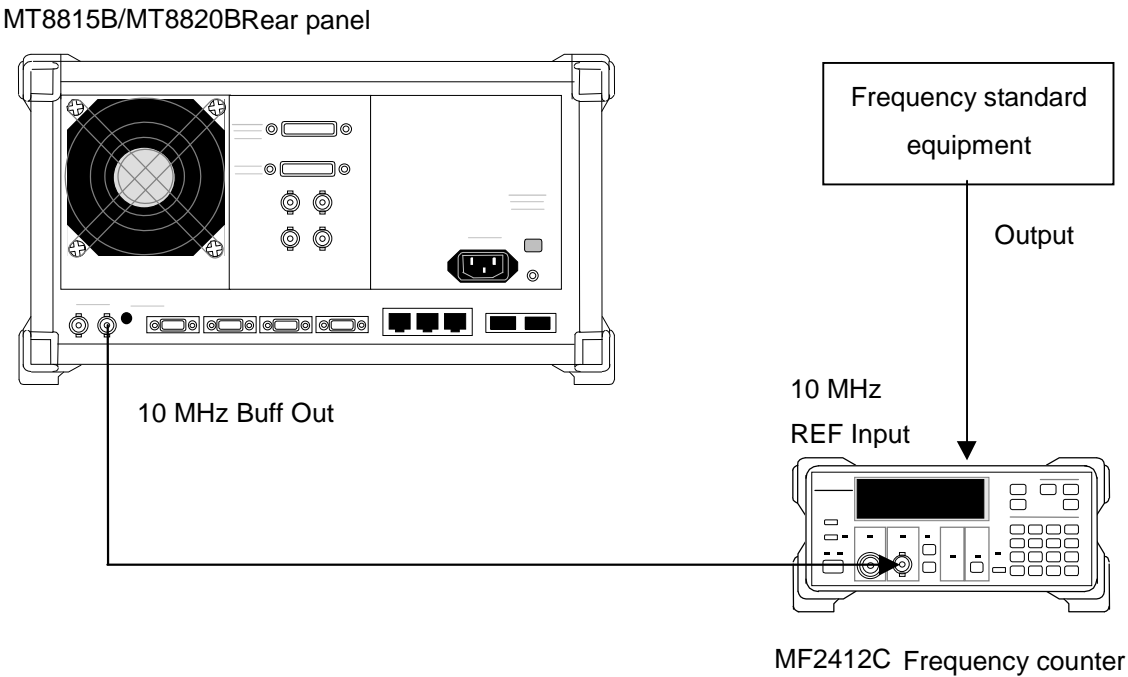

Fig. 9.1.4-1 Setting up the frequency stability test for reference oscillator
1. In the connection diagram, Fig. 9.1.4-1, install MT8815B/MT8820B in the thermostat and set its temperature at 25°C.